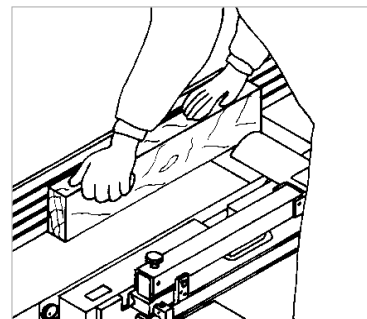

Figure 30: Jointing over 65 mm (2)
- Towards the end of machining (outfeed side) the right palm must still be on the workpiece from above (see ⇒ Figure 30).